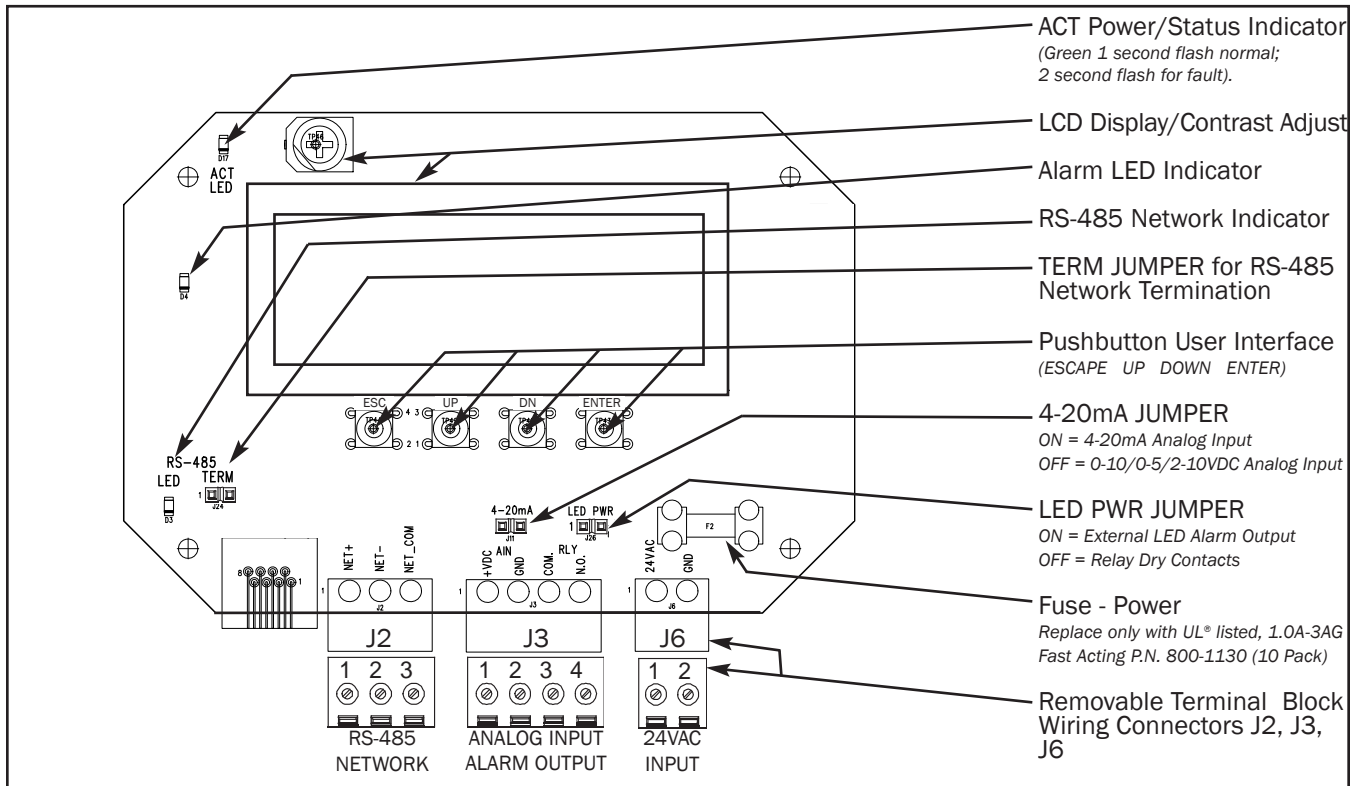

Figure 4. GA-200-N Main Circuit Board Detail
GA-200-N wiring consists of connecting 24VAC input power, BACnet MS/TP or Modbus interface, analog input and the optional alarm output at the GA-200-N. Refer to Figures 4 and 5 for additional detail. Following installation, review and perform any setup options required (other than the default values) as outlined in the GA-200-N Setup Procedure.
Wiring connections to the GA-200-N are accomplished at three removable screw-type terminal block connectors for J2, J3 and J6 at the bottom of the instrument as shown in Figure 4. The connectors are keyed to prevent improper hookup to the instrument.
2. ☐ Connect 24 VAC power to J6 terminal 1, and the 24V ground to J6 at terminal 2 as shown in Figures 4 and 5, observing the following wiring precautions.
The GA-200-N accepts an analog input signal that can be configured as voltage (0-10VDC, 0-5VDC, 2-10VDC @20mA max.) or as 4-20mA current using the 4-20mA jumper on the main circuit board as shown in Figure 4. The 24VAC return ground connection is shared with the analog input signal ground (GND). If the analog input must be isolated from the 24VAC return, a dedicated isolation transformer must be provided to power the GA-200-N.
2. ☐ Connect the analog input signal wire at J3-1, and the signal ground at J3-2 as shown in Figures 4 and 5 while observing the previous wiring precautions.
1. ☐ Remove the four cover retaining screws at each corner of the transmitter cover in order to gain access to the transmitter Wiring Terminal Block on the main circuit board shown in Figure 4.
The GA-200-N alarm output can be configured as relay dry contacts, or as direct drive (15 mA typical) for an external LED indicator. The alarm output type is set using the LED PWR jumper on the GA-200-N main circuit board as shown in Figure 4. With the LED PWR jumper on, alarm output is set to provide an external LED drive (15 mA typical) at J3 terminal 4, with ground return at J6 terminal 2. With the LED PWR jumper OFF, alarm output is set to provide dry relay contacts between J3 terminals 3 and 4 (contacts rated at 30VDC/24VAC 3 amps maximum). The alarm can be set as normally open (contact close on alarm) or normally closed (contacts open on alarm) in the Setup menu.
The GA-200-N includes an RS-485 communications interface at J2. Network termination for the GA-200-N is selected using the Termination (TERM) jumper on the GA-200-N main circuit board as shown in Figure 4. Termination options are provided for an end of the network or segment, or for any other point on the network or segment.
1. ☐ Remove the four cover retaining screws at each corner of the transmitter cover in order to gain access to the transmitter TERM jumper on the main circuit board shown in Figure 4.